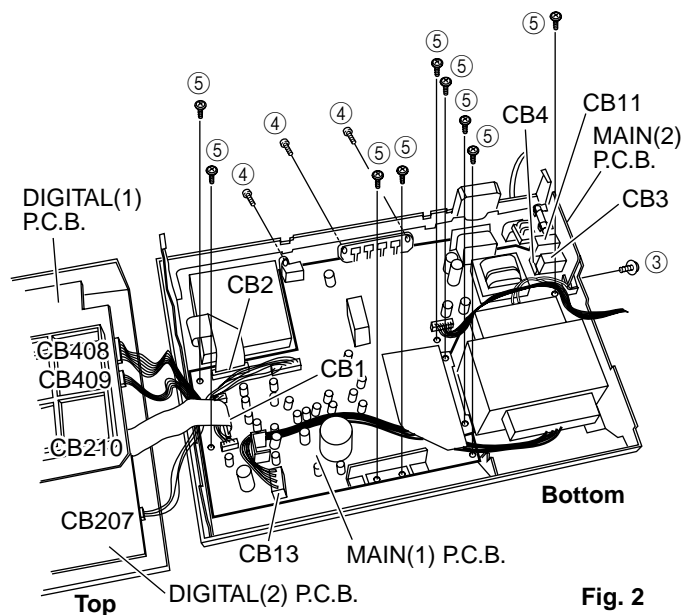

Fig. 2
- Remove 1 screw (③), shift the MAIN P.C.B (2) upward and then remove the connector (CB4). (Fig. 2)
- Remove 3 screws (④).
- Remove 9 screws (⑤). The MAIN P.C.B. (1) and MAIN P.C.B. (2) can then be removed. (Fig. 2)